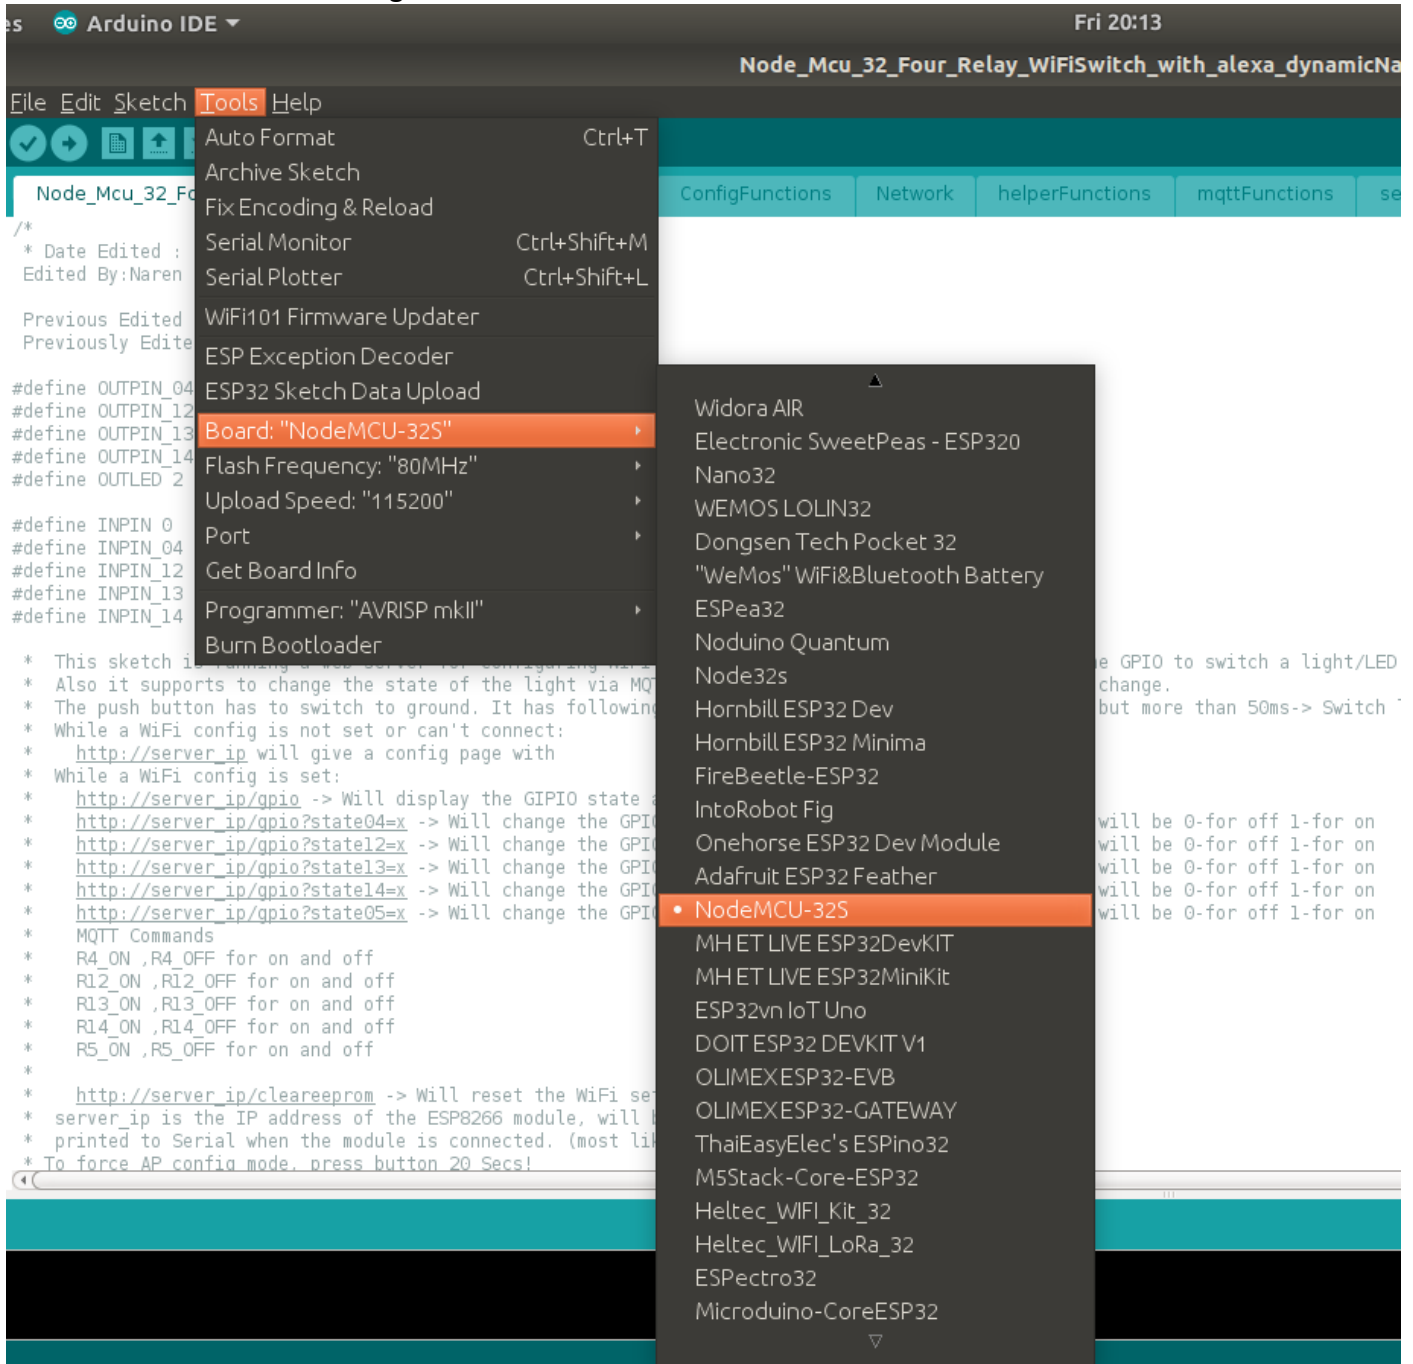

Figure 3: Board Selection
- Click on Tools Tab, move mouse pointer on "Board: xxxxxxxxxxxx" and click on "NodeMCU-32S" as shown in figure 3.